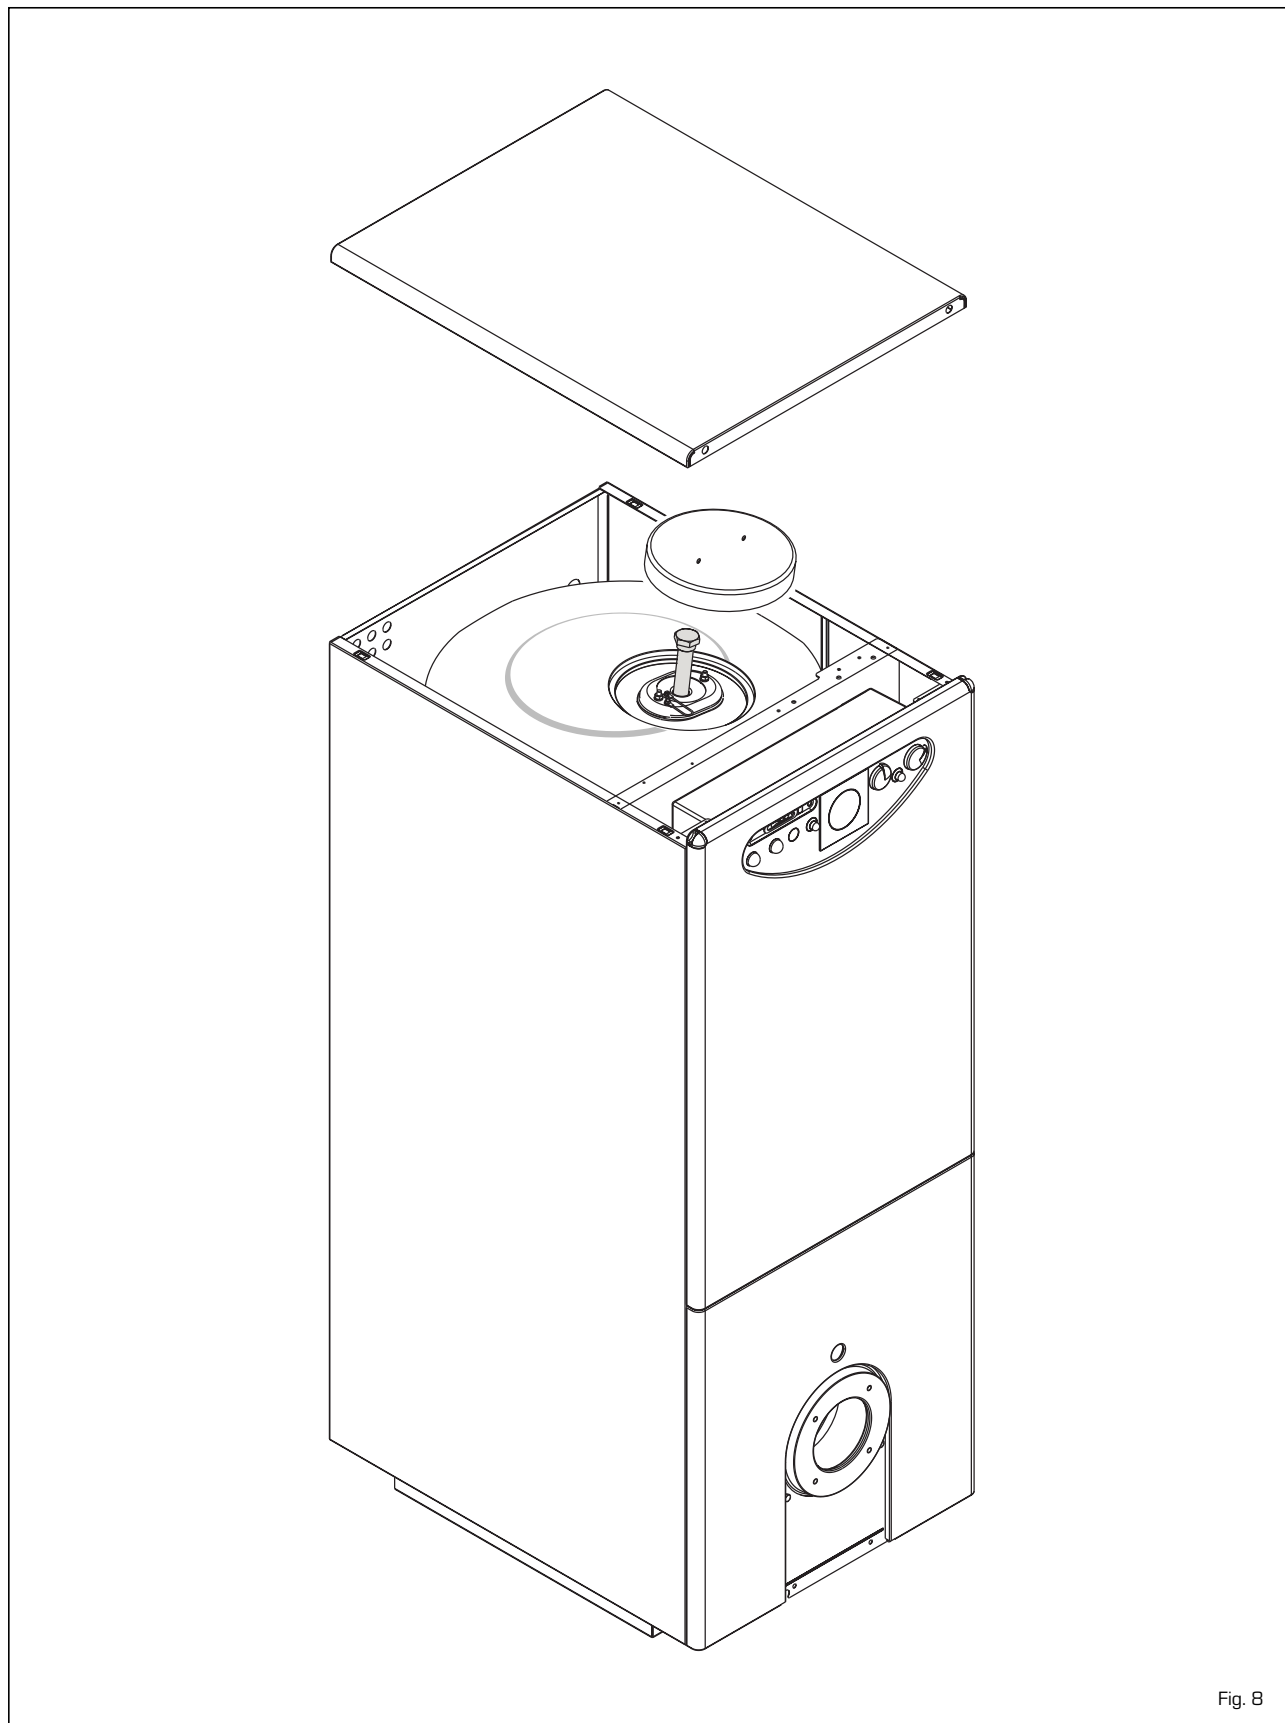

Fig. 8
3.3.2 Tank unit protection anode (fig. 8)